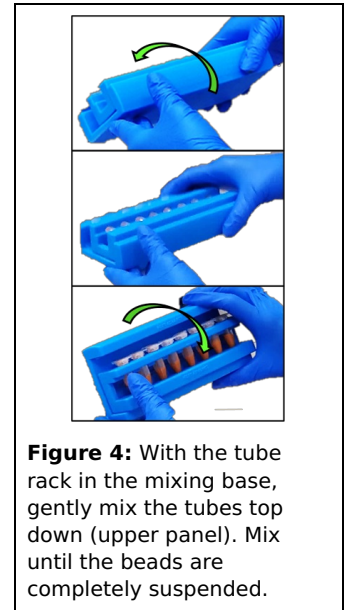

Figure 4: With the tube rack in the mixing base, gently mix the tubes top down (upper panel). Mix until the beads are completely suspended.
1. Add 700 μL of Wash Buffer 1 to the tubes and then place the tube rack in the mixing base. Mix thoroughly by inversion, ensuring all beads have been detached from the tube walls and evenly suspended (Figure 4).